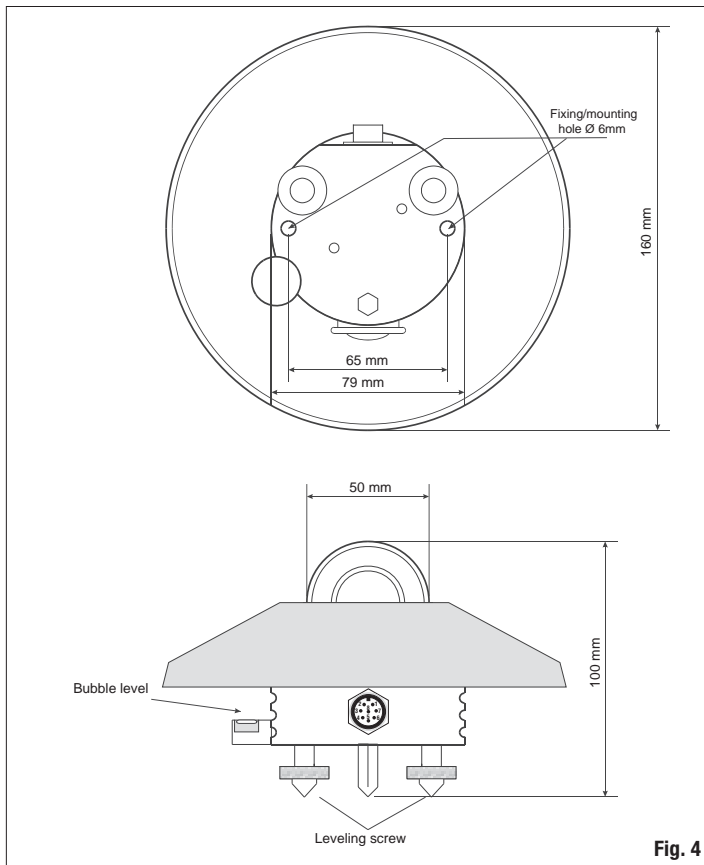

Fig. 4
- The LP UVB 02 radiometer is provided with a spirit level for carrying an accurate horizontal leveling. The adjustment is made by means of two leveling screws that allow to adjust the radiometer inclination. Use the two 6mm-diameter and 65mm-interaxial-distance holes to mount the instrument on a plane. Remove the shade disk to access the holes and reposition it after mounting (see Fig. 4).
- Dimensions: Fig. 4